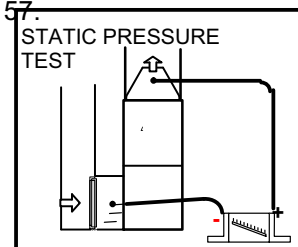

FIGURE 57
- 1 - Tap locations shown in figure 57.